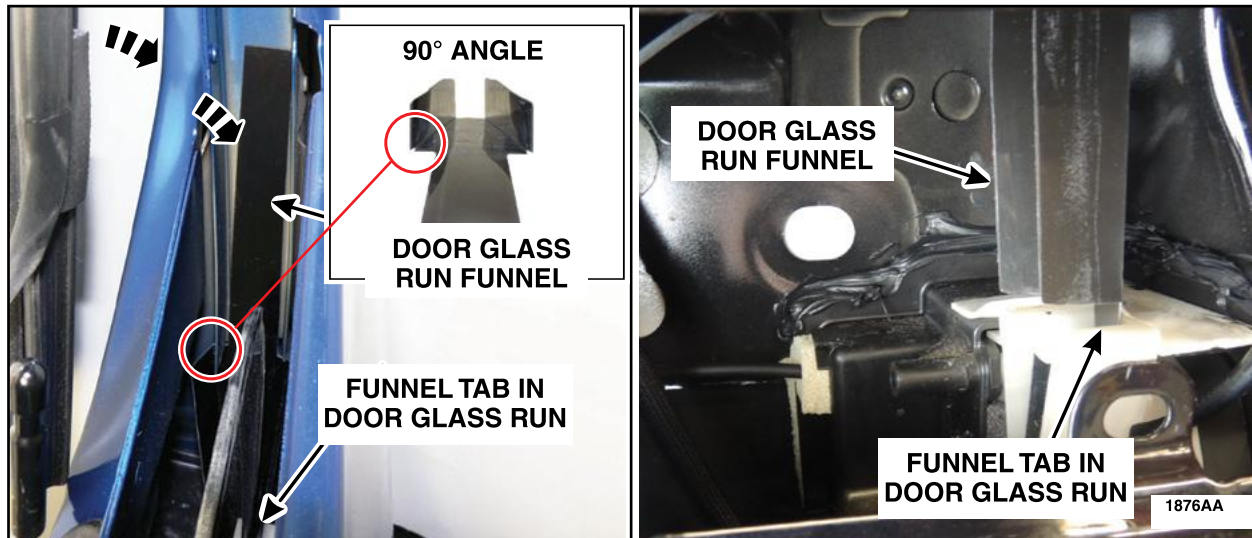

FIGURE 48
29. Install a *new* door glass run funnel, **ensuring that the lower tab is situated in the door glass run and the funnel sides sit at a 90° angle above the door glass run.** See Figure 48.